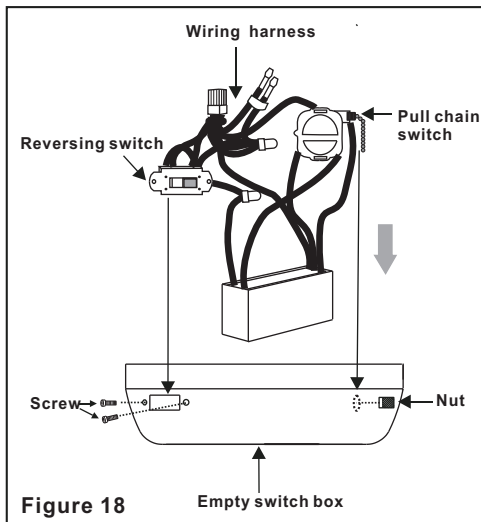

Figure 18
2. Install the wire harness into the empty switch box by placing the pull chain switch and reversing switch into the holes located in the empty switch box (see illustration), secure the pull chain switch and reversing switch with the original nut and screws.(Fig. 18)